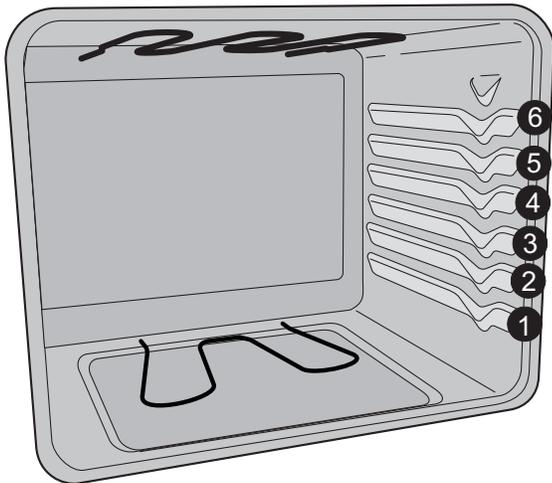

Figure 12: Rack positions for broiling
6. Place the broiler pan and insert on the oven rack. Broil with oven door open to the broil stop position (Figure 12).